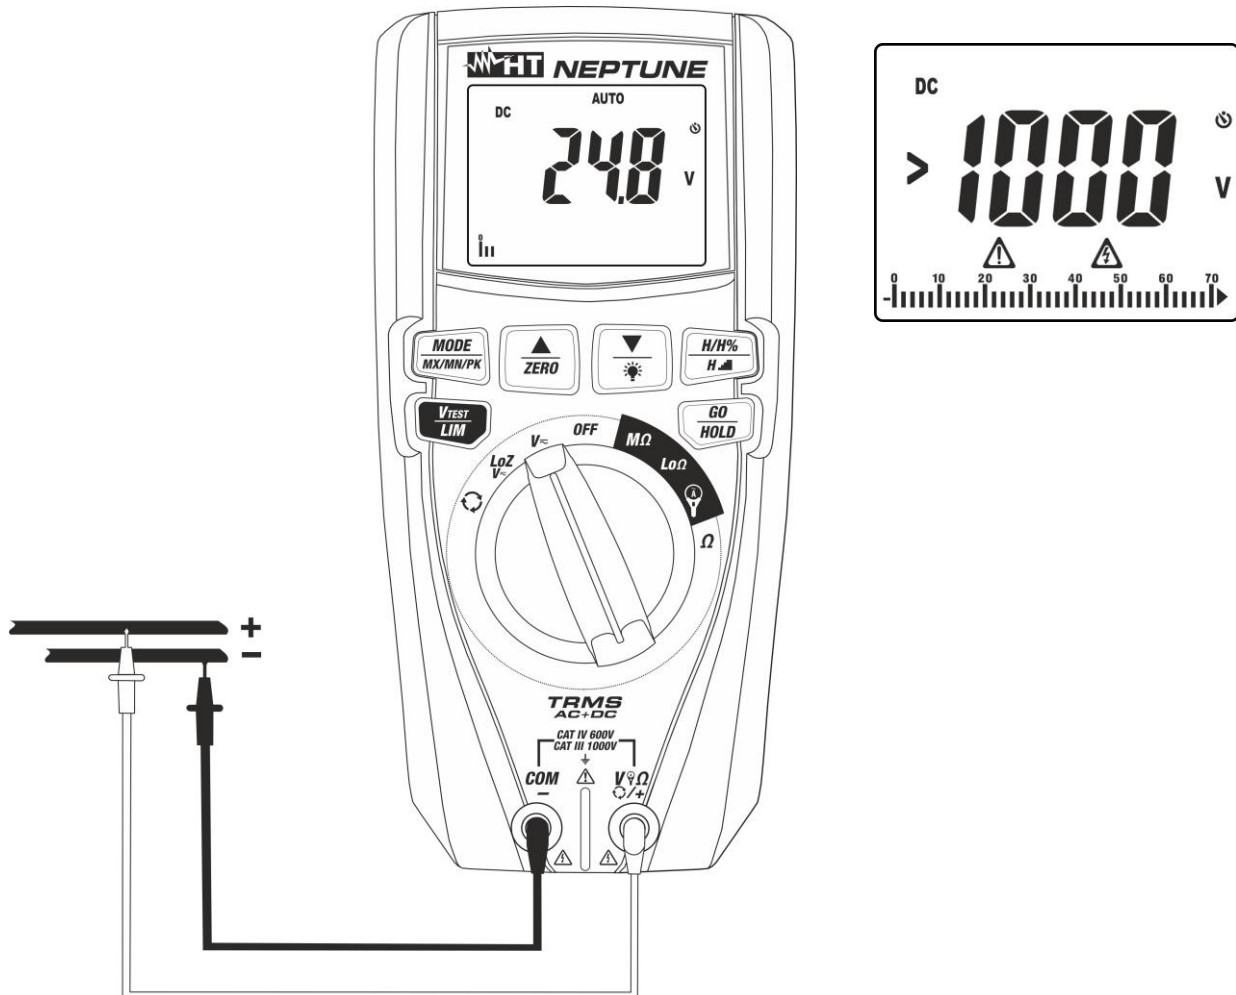
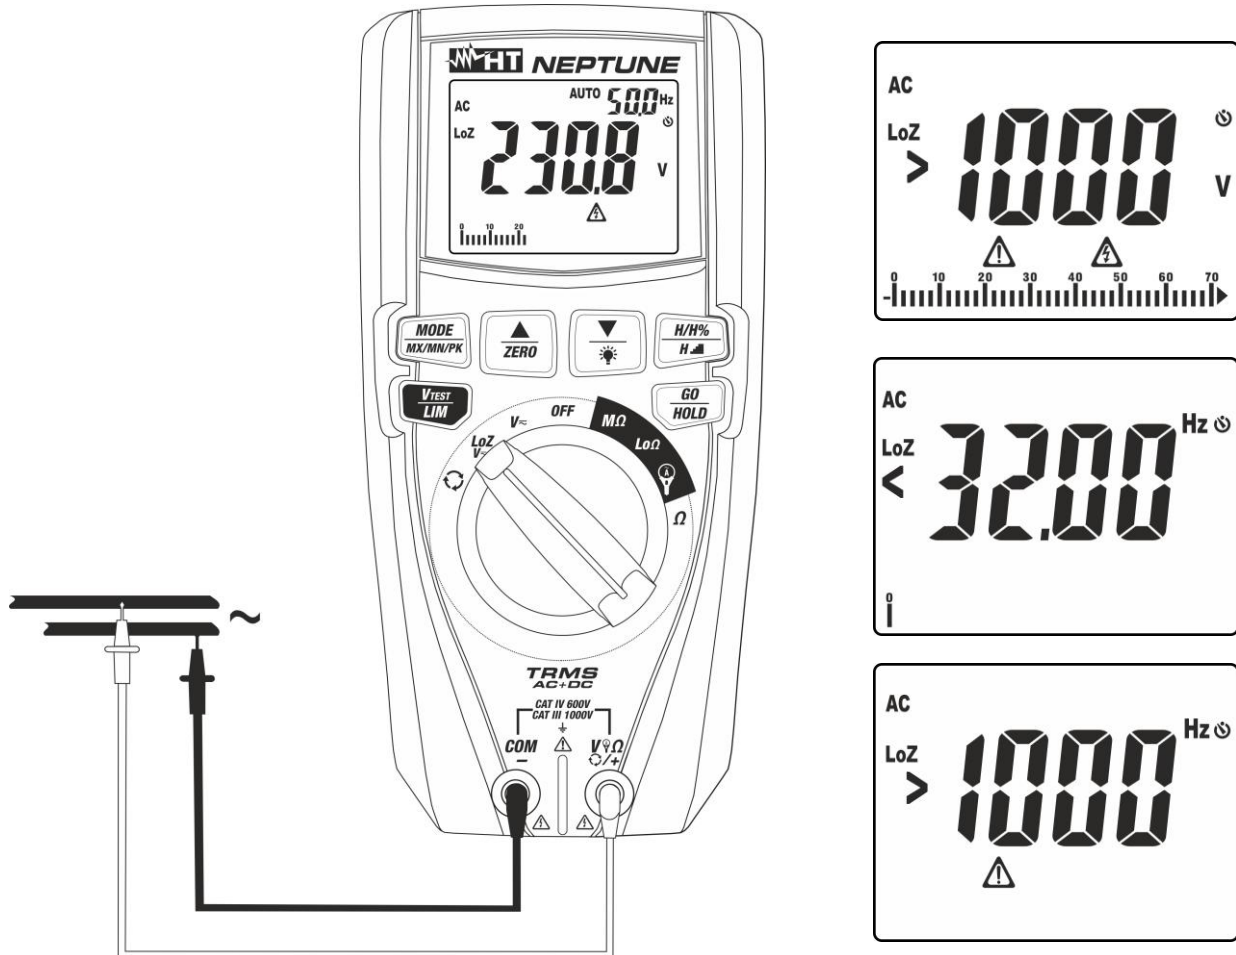

Fig. 6: Use of the instrument for DC voltage measurement
Fig. 8: Use of the instrument for AC/DC voltage measurement with LoZ function
3. Position the red lead and the black lead respectively in the spots with positive and negative potential of the circuit to be measured (see Fig. 6). The display shows the value of voltage.
4. If the display shows the message **>1000V** (see Fig. 6), the maximum measurable value has been reached.
5. When symbol **"-"** appears on the instrument's display, it means that voltage has the opposite direction with respect to the connection in Fig. 6.
4. Position the red lead and the black lead respectively in the positions of the circuit to be tested (see Fig. 8) for AC voltage measurement or in the positions with a positive or negative potential of the circuit to be tested (see Fig. 6) for DC voltage measurement. The display shows the value of voltage. On the top of the display on the right side, the value of voltage frequency is displayed. Press key **MODE/MXMNPK** to display the value of frequency with a higher resolution.
5. If the display shows the messages “<32Hz” or “>1000Hz” (see Fig. 8), the value of frequency is out of the measuring range **32Hz ÷ 1000Hz**.
6. When symbol “-” appears on the instrument's display, it means that voltage has the opposite direction with respect to the connection in Fig. 6